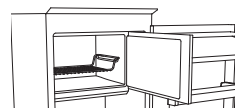
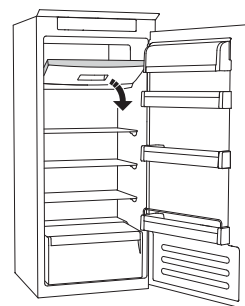

Figure 1
Figure 2
- arrange the food on the grille, if present (figure 1), or directly on the bottom of the compartment (figure 2)
- put the food in the middle of the *** ** *** compartment without it coming into contact with food that is already frozen, keeping a distance of about 20 mm (figure 1 and 2).
The STOP FROST SYSTEM (available depending on the model) facilitates the defrost procedure for the freezer compartment. The STOP FROST accessory (figure 1) is designed to collect some of the frost that forms in the freezer compartment and it is easy to remove and clean, therefore reducing the time needed to defrost the inside of the freezer compartment.
- Open the freezer compartment door and remove the upper drawer (figure 2).